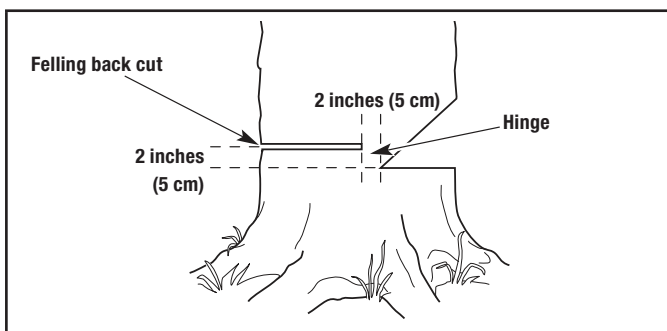

Figure 12
1. Make a horizontal cut into the opposite side of the tree from the notched undercut (Fig. 12). Make the cut approximately 2 inches (5 cm) above the bottom of the notched undercut (Fig. 12).
2. As the cut gets close to the notched undercut, only a thin band of wood will support the tree. This band of wood is referred to as the hinge (Fig. 12). The hinge helps control the fall of the tree. Leave approximately 2 inches (5 cm) of hinge in place. Do not cut through the hinge. Cutting through the hinge could cause the tree to fall in any direction.